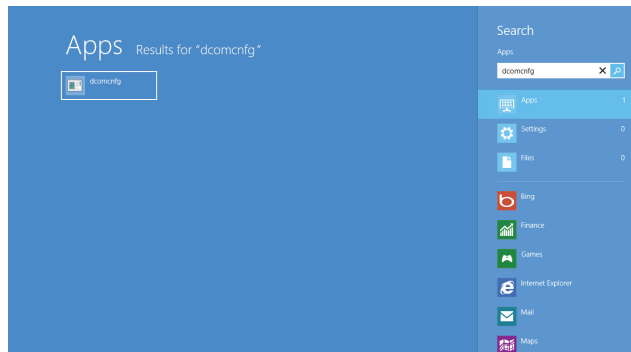

Figure 2-2 The Search box in Windows 8
3. If you are using Windows 8, in the **Search** box on the Windows taskbar, type **dcomcnfg**, and then press the Enter key (see Figure 2-2 on page 31).